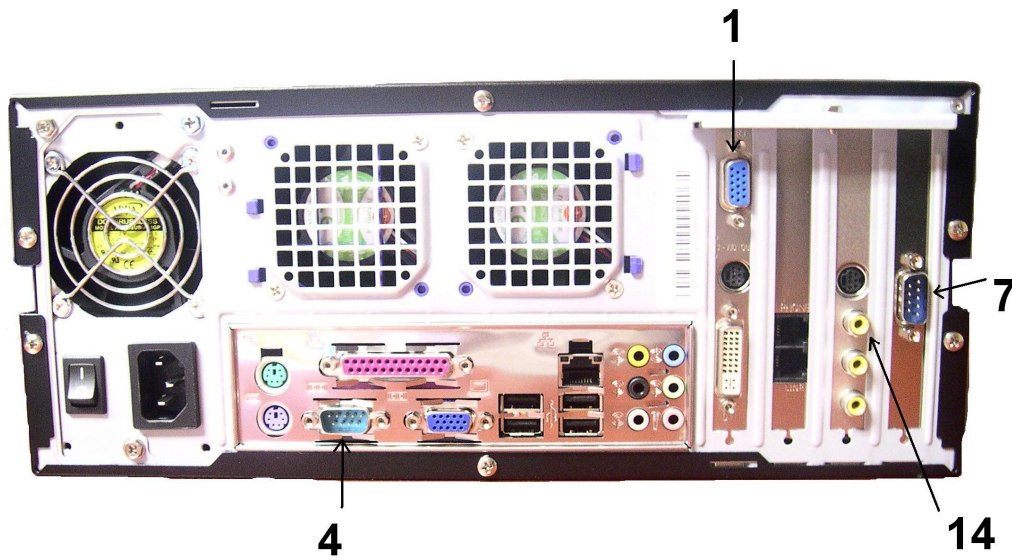
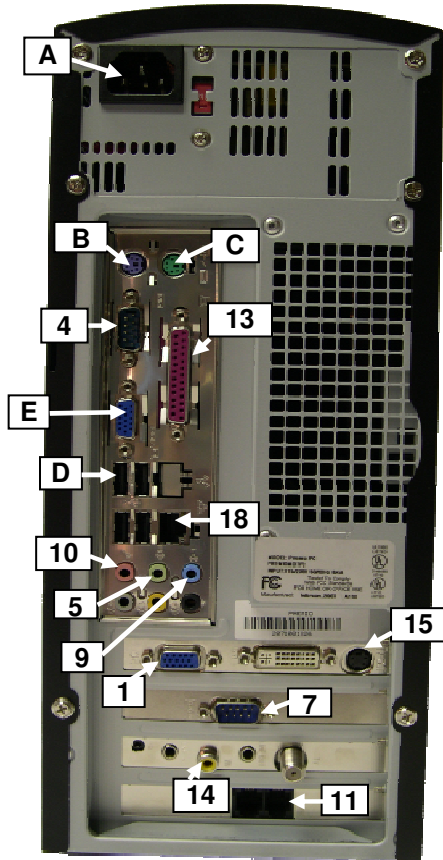
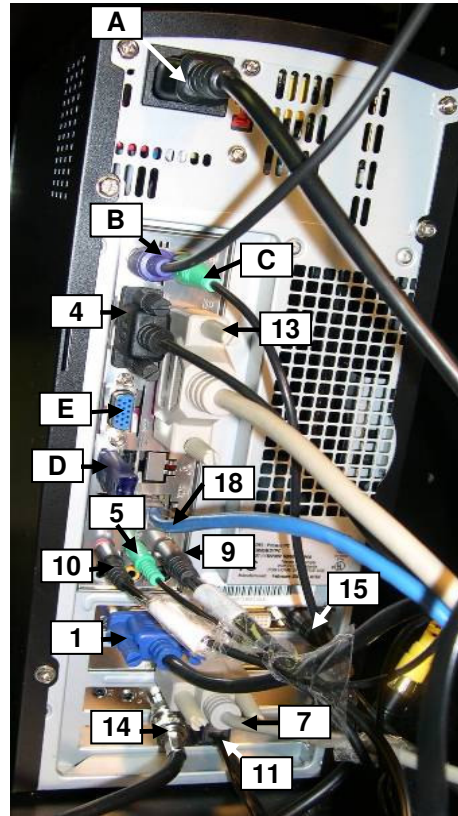

Figure 3: Series 11 PC back
Figure 1 Computer back
Figure 2: Wired computer back
Figure 1 shows the connectors that you plug the devices into. Figure 2 shows the back of a correctly wired computer. Figure 3 shows the series 11 PC back.
If you want the audio to go to the monitor speakers, plug in Monitor Audio In (cable label 5 in Figure 2) from the monitor to the back of the computer (label 5 in Figure 1).
If you want the audio to go to the hall PA system, plug in PC Audio Out PA (label 8) from the I/O box to the back of the computer (label 5 in Figure 1). Cable label 8 is not shown in Figure 2 because cable label 5 is plugged in.
1. **PC VGA**—Connect the DB15 VGA cable (cable label 1 PC VGA) to the blue monitor input at the back of the computer (label 1 on Figure 1 Computer back, page 9).
Do not connect the PC VGA to E (See Figure 1 Computer back, page 9) as this VGA connector is disabled.
4. **PC Touch Screen**—Connect the DB9 serial connector (cable label 4 PC Touch Screen) to the Touch Screen input on the back of the computer (label 4 on Figure 1 Computer back, page 9).
5. **Monitor Audio In** —Connect the 1/8 inch stereo plug (cable label 5 Monitor Audio In) to green input on the back of the computer (label 5 on Figure 1 Computer back, page 9). **Plug the cable into the monitors, if you want the audio to go to the monitor speakers.**
Note: If you want the audio to go to the hall PA system, plug in the 1/8 inch stereo plug from the I/O box (cable label 8 IO box Audio Out) into the back of the computer (label 5 in Figure 1 Computer back, page 9).
5. **Monitor Audio In**—Connect the 1/8 inch stereo (cable label 5 Monitor Audio In) from the back of the computer (label 5 in Figure 1 Computer back, page 9) into the monitor. **Plug the cable into the monitors, if you want the audio to go to the monitor speakers.**
Note: If you want the audio to go to the hall PA system instead of the monitors, plug in the 1/8 inch stereo plug from the I/O box (cable label 8 IO box Audio Out) into the back of the computer (label 5 in Figure 1 Computer back, page 9).
The PC Video In Cable (cable label 14 PC Video In) has an RCA type connector on the end. This is typically an RG59 cable with a BNC connector on the end and a BNC to RCA adapter. The PC Video In cable plugs into the Video In connector on the back of the computer (label 5 on Figure 1 Computer back, page 9).
The PC Video out Cable (cable label 15 PC Video Out) has an S-Video type connector on the end. This is typically an RG59 cable with a BNC connector on the end and a BNC to RCA adapter connected to a RCA to S-Video adapter. The PC Video Out cable plugs into the Video Out connector on the back of the Computer (label 15 on Figure 1 Computer back, page 9).
14. **Video Switch Out 4**—Connect the BNC video output (cable label 14 Video Switch Out 4) to the PC Video In input on the computer (label 14 in Figure 1 Computer back diagram, page 9).
15. **Video Switch In 5**—Connect the BNC video input to the PC Video Out input on the back of the computer (label 15 in Figure 1 Computer back diagram, page 9).